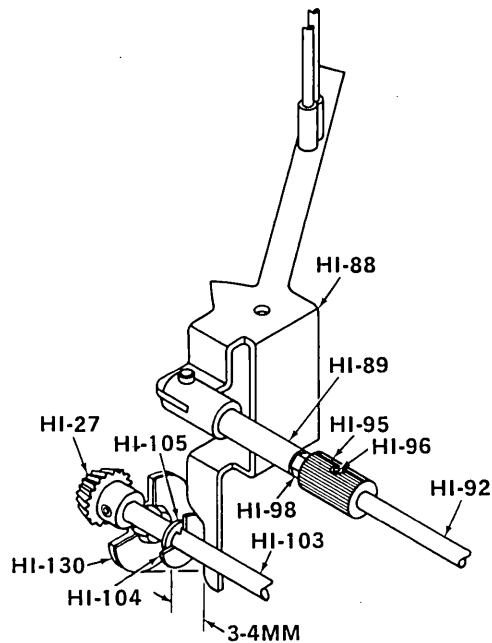

Figure 5-17. RIBBON REVERSING ROD ADJUSTMENT
2. With right bevel gears engaged (HI-27, 59), (right side, rear view) adjust gap between washer (HI-104) and ribbon reverse control arm (HI-88) between 3 and 4 millimeters (0.12-0.16-in.) by rotating ribbon reversing rod (HI-92) to control the distance. (Refer to Figure 5-17).